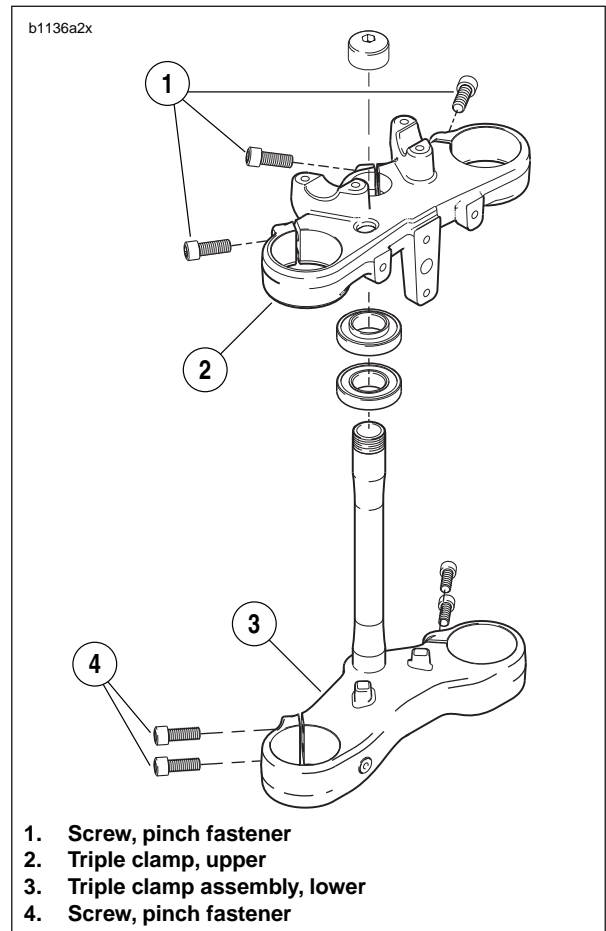

Figure 2-64. Upper and Lower Fork Clamp Assembly
4. See Figure 2-64. Loosen upper and lower fork clamp pinch fasteners (1, 4).
6. See Figure 2-64. Remove fork from lower fork clamp (3).